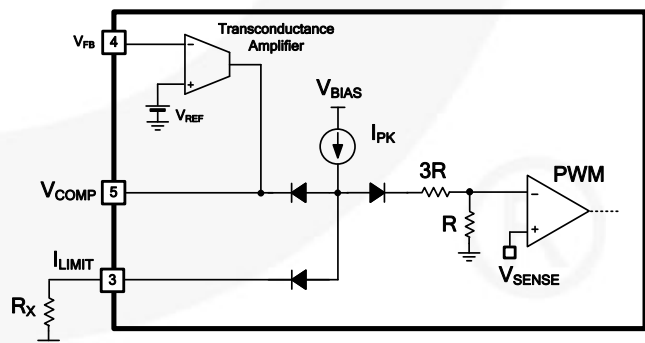

Figure 12. Current Limit Adjustment
As shown in Figure 12, a combined 46 kΩ internal resistance ($3R + R$) is connected to the inverting lead on the PWM comparator. An external resistance of R_X on the I_{LIMIT} pin forms a parallel resistance with the 46 kΩ when the internal diodes are biased by the main current source of 50 μA. For example, FSL336LR has a typical SenseFET peak current limit of 1.8 A. Current limit can be adjusted to 1 A by inserting R_X between the I_{LIMIT} pin and the ground. The value of the R_X can be estimated by Equation (1):